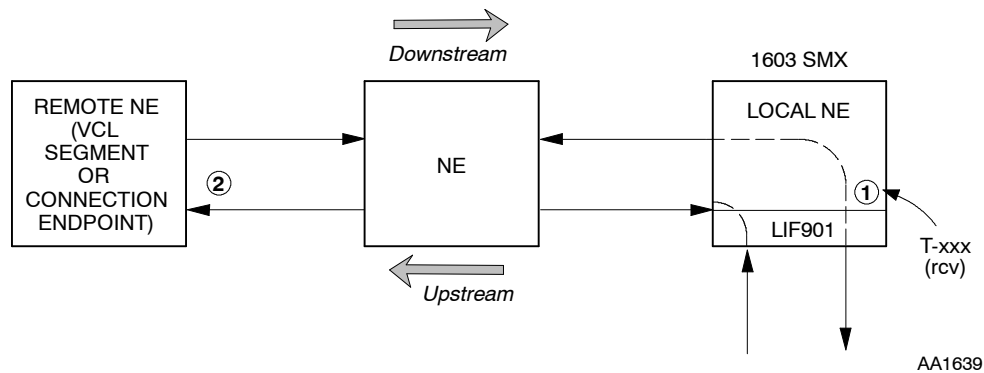

Figure 5. Receive NEND and FEND T-xxx on LIF901
* This number refers to the location where errors are detected as shown in in Figure 5.